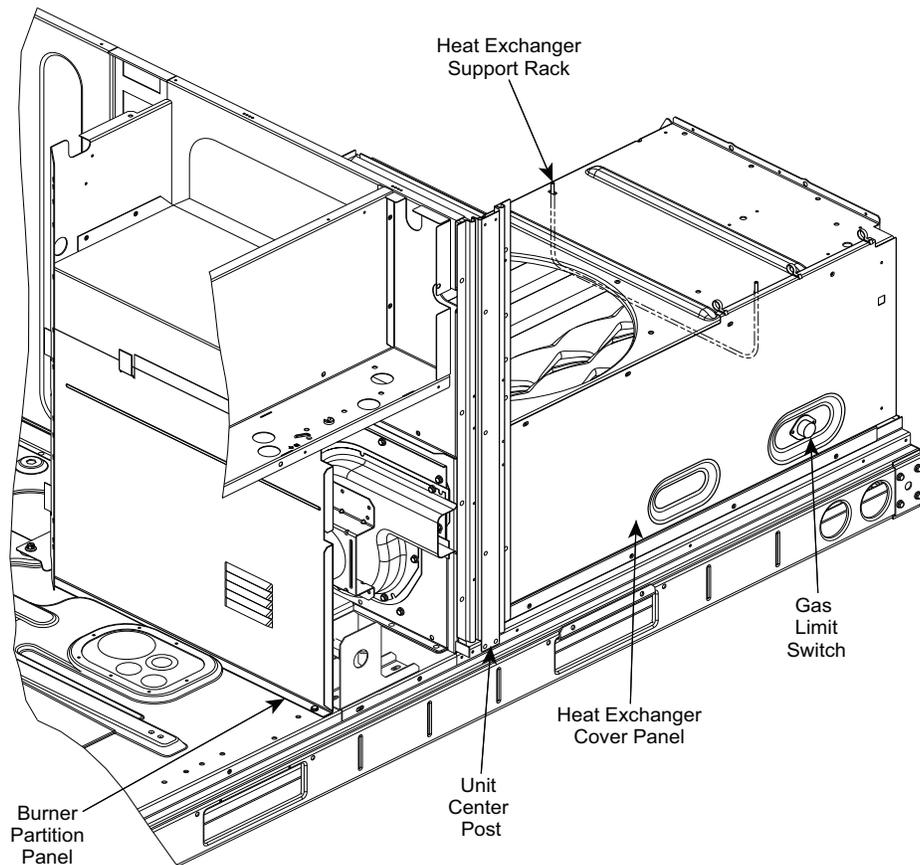

Fig. 36 — Heat Exchanger Access — Internal Panels, Center Post and HX Rack Locations
1. Remove the screw at the base of the burner partition panel (see Fig. 36) and slide out the panel.
5. Remove the screw at the base of the burner partition panel (see Fig. 36) and slide out the panel.
3. Remove the unit center post (refer to Fig. 36).
Remove the indoor blower access panel. Limit switch is located on the heat exchanger cover panel. See Fig. 36.